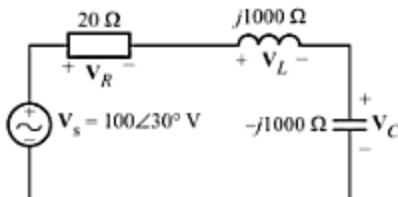

Fig. C-42
**C-16.** Use voltage division to find  $V_R$ ,  $V_L$ , and  $V_C$  in the circuit shown in Fig. C-42.